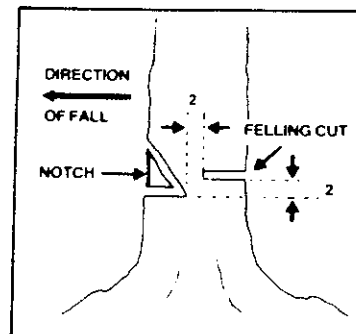

Figure 21
- a. Make the notch cut. Figure 21.